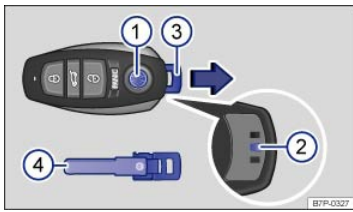

Fig. 17 Releasing the emergency key and removing it from the remote control vehicle key.
- With one hand, press and hold button ① ⇒ Fig. 17.
- With the other hand, press the locking catch ② under the emergency key ④ while pulling the key out in the direction of the arrow.